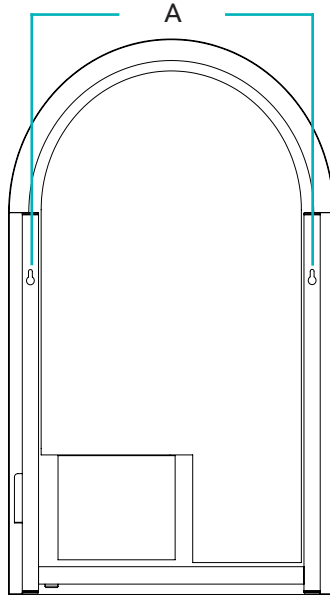

Fig 2. - Alba 50/60 mounting points
2. Carefully mark the position of the mirror using a soft pencil ensuring it is level. Remove the mirror and mark the mounting points, *see Fig. 2*. **Please ensure that all marked mounting points accurately match up with the fixing points on the mirror.**